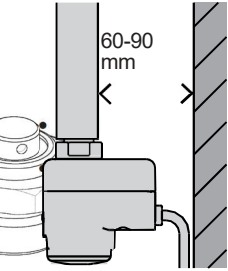

Fig. 2
- The Towel rail has to be mounted parallel to the wall using the brackets belonging to the towel rail. The distance between Type E Element and the wall must be between 60 and 90 mm (Fig. 2). In order to avoid a hazard for younger children, the electrical towel rail should be installed so that its bottom part is at least 600mm above the floor according to EN 60335-2-43/A1.